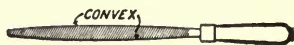

FIG. 128.—Shape of File.
Files are made convex, i.e., rounding, as shown in Fig. 128, for three reasons: (1) to overcome the effect of the spring down or bending of the file due to the pressure of the hands in making a cut; (2) to overcome the spring or warp caused by heating and hardening the file when made; (3) to make the file bite or cut with only a few teeth in the middle of its length.